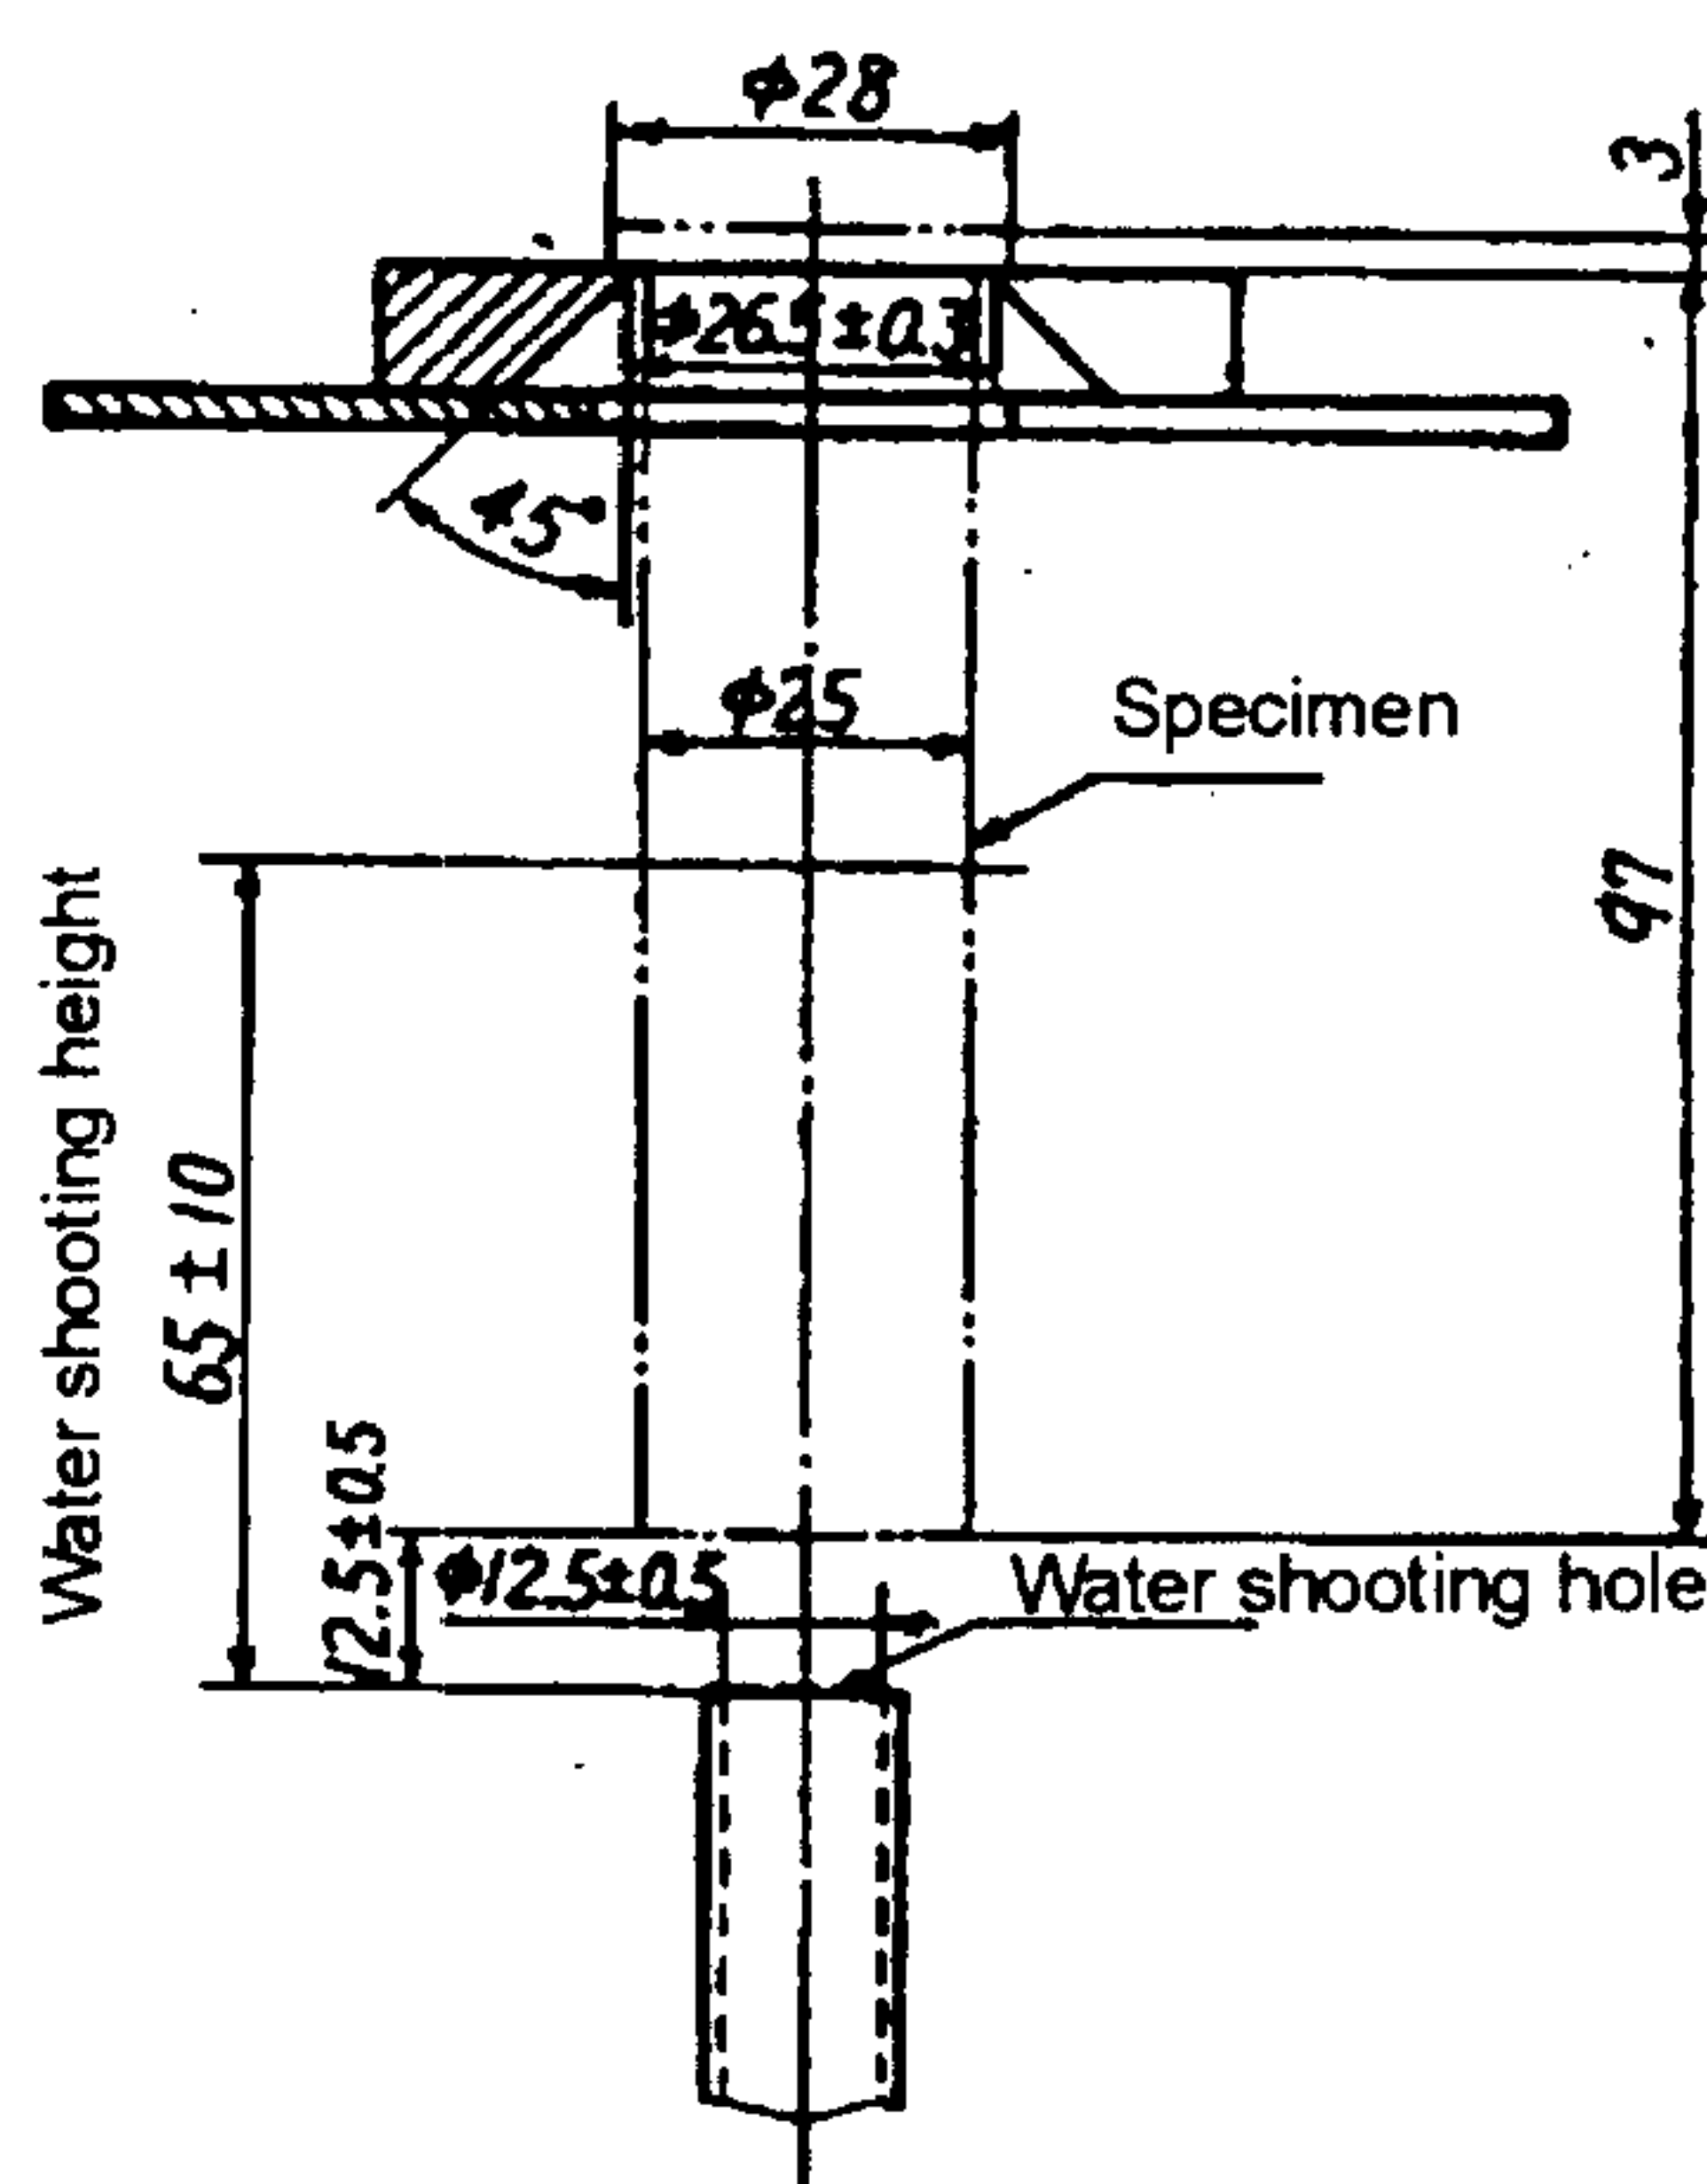

Figure 1. Quenching System
- (a) Specimen holding table shall be as figure 1. Make a table that supports a bottom of specimen to be quenched at the position of 12.5 ± 0.5 mm right above the water shooting hole vertically.